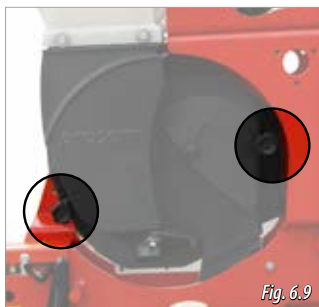

Fig. 6.9
- 1- Loosen the two securing knobs to remove the lid from its original place (Fig. 6.9).